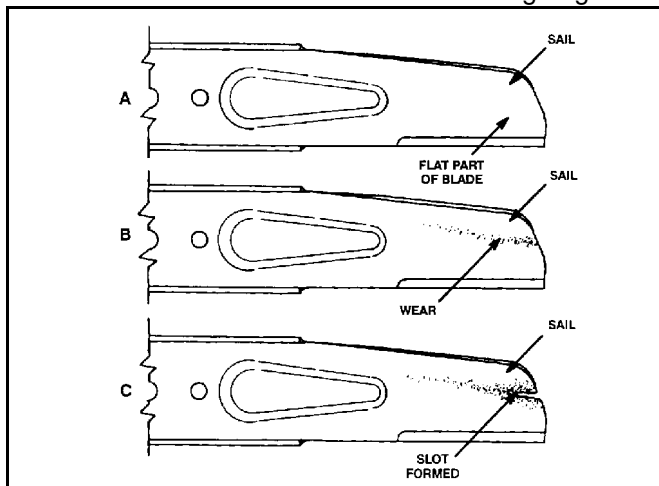

Figure 10
3. **EXAMINING BLADE** - Carefully examine blade for sharpness and wear, especially where flat and curved parts meet. Since sand and abrasive material can wear away the metal that connects the flat and curved parts of the blade, check blade before using the mower. If a slot or wear is noticed replace blade (Figure 10). Refer to step 4.